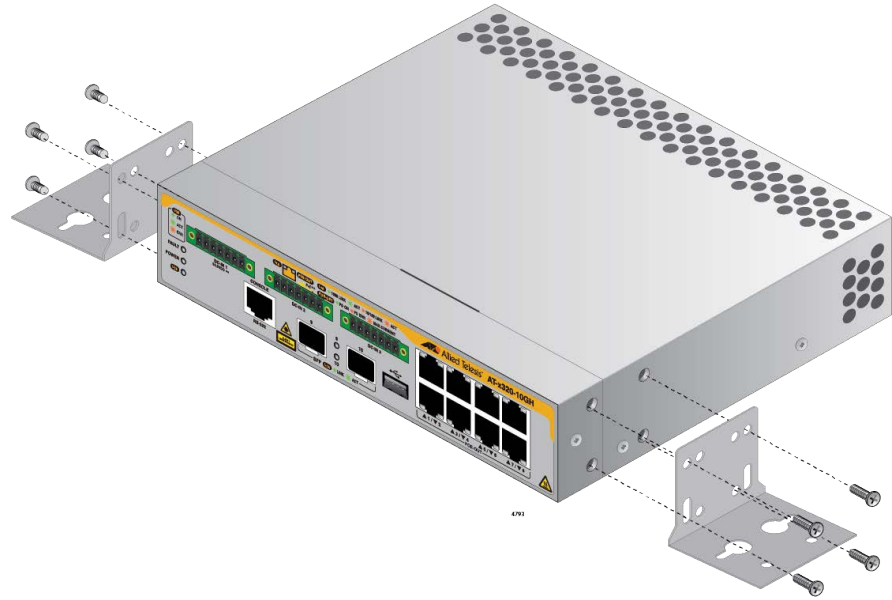
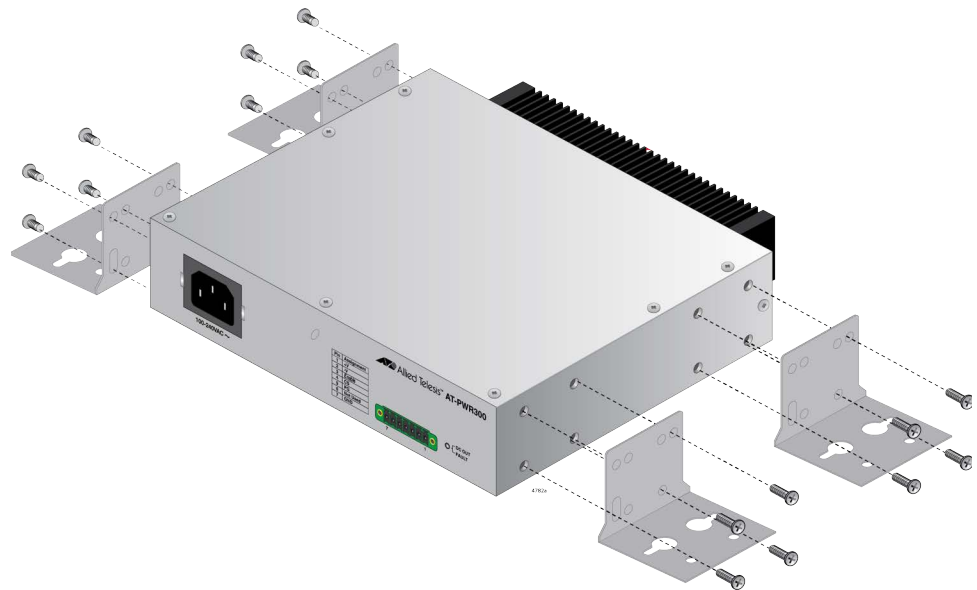

Figure 52. Installing the Wall Brackets on a Switch
Figure 53. Installing the Wall Brackets on a Power Supply
2. For the x320-10GH or x320-11GPT switch, install two BRKT-J24 wall brackets, one on each side of the front panel of the unit, with the eight M4x6mm screws included with the device. Refer to Figure 52 on page 111. For the PWR300 power supply, install four BRKT-J24 wall brackets, two on each side of the of the unit, with the 16 M4x6mm screws included with the device. Refer to Figure 53 on page 111.
2. For the x320-10GH or x320-11GPT switch, install two BRKT-J24 wall brackets, one on each side of the front panel of the unit, with the eight M4x6mm screws included with the device. Refer to Figure 52 on page 111. For the PWR300 device, install four BRKT-J24 wall brackets, two on each side of the of the unit, with the 16 M4x6mm screws included with the device. Refer to Figure 53 on page 111.